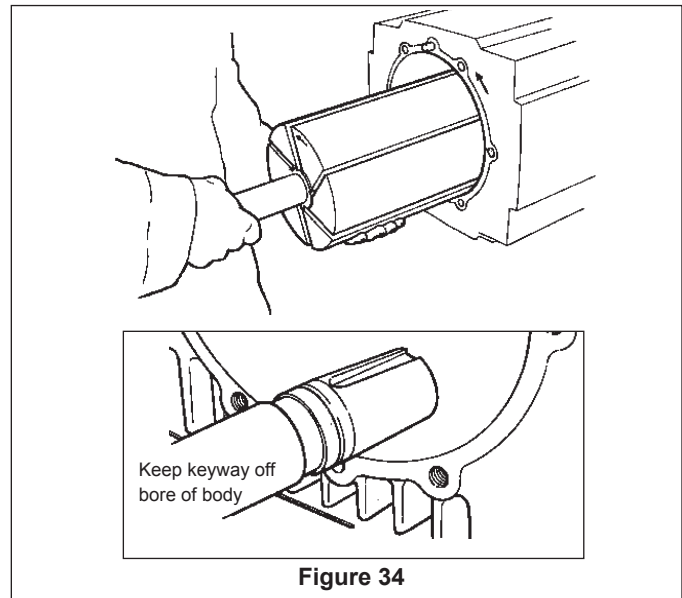

Figure 34
- Slide the rotor carefully into the body with the slots leaning towards direction of rotation. Match arrows on rotor with arrows cast on body. If resting the rotor shaft on the bore, make sure the keyway faces up to avoid scratching surface. See Figure 34. Once the rotor is fully into the bore, slide the shaft through the sideplate. Support the rotor with a wooden block to prevent bearing damage.